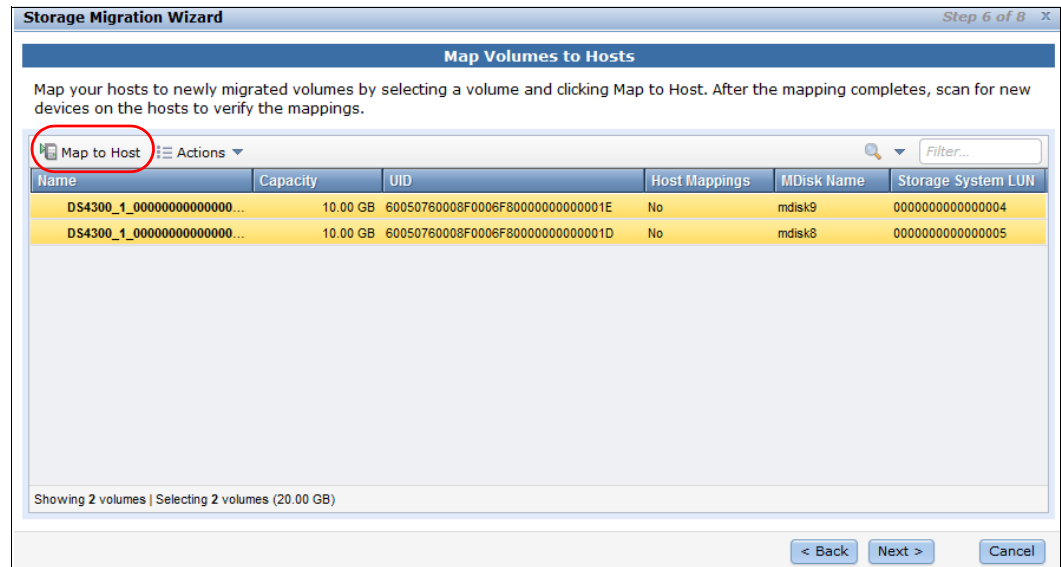

Figure 7-15 Storage Migration Wizard step 6 - Map to host
- Click **Map to Host** for making the disks available to the host during migration as shown in Figure 7-15 on page 280.